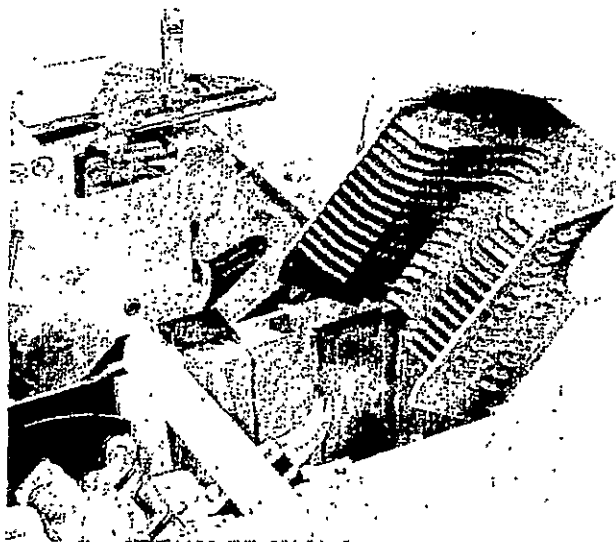

Fig. 3.
2. Remove arc chute from right pole for ease of access to interior (Fig. 3).